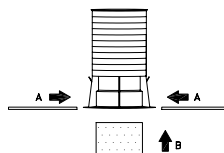

Figure 1
- 1) Install metal wings "A" to side of Cast-In-Place Firestop Device. Figure 1
- 2) Install cardboard form "B" to underside of Cast-In-Place Firestop Device. Figure 1